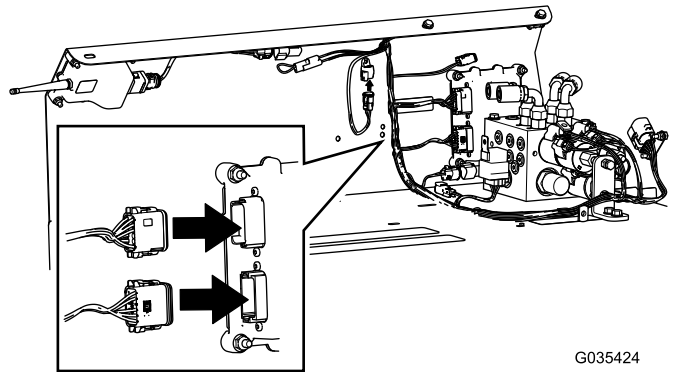

Figure 15
6. Plug the controller connections into the controller adapters (Figure 15).